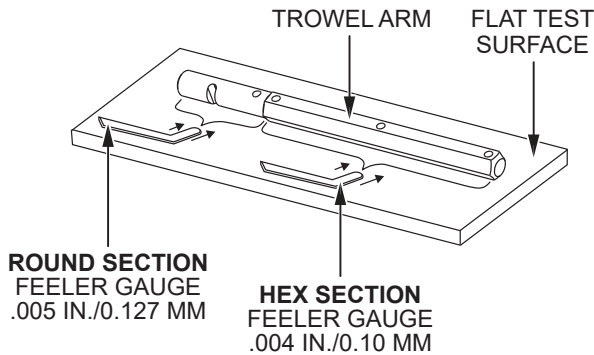

Figure 72. Trowel Arm Inspection
1. Place the trowel arm on a thick steel plate, granite slab, or any other surface which is **true** and **flat** (Figure 72).
2. Check each of the six sides of the trowel arm hex section (Figure 72). A feeler gauge of .004 inch (0.10 mm) should not pass between the flat of the trowel arm and the test surface along its length on the test surface.
3. As the flat hex section rests on the test surface, use a feeler gauge of .005 inch (0.127 mm) to check the clearance between the round shaft section and the test surface. Rotate the arm to each of the flat hex sections and check the clearance between the round shaft and the test surface. The clearance between the round shaft and the test surface should be identical for each hex section. See Figure 72.